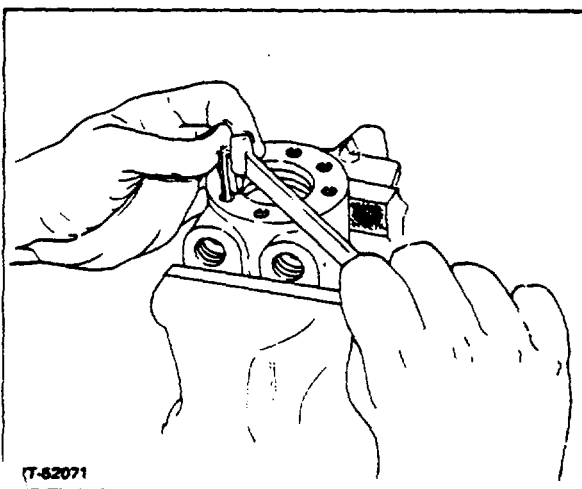

Figure 3-9. Removing Check Valve Seat
15. With housing installed in vise, control end up, remove check valve seat with 3/16 hex wrench (Fig 3-9).